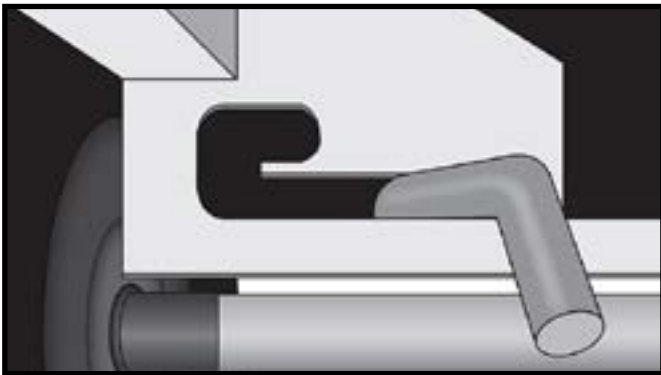

Figure 21: First-Generation Cart Brake Lever Position for Drive System Operation
- When using the cart's drive system, the brake lever (located between the wheels on the side opposite the tow handle) should be in Position A (Figure 21).